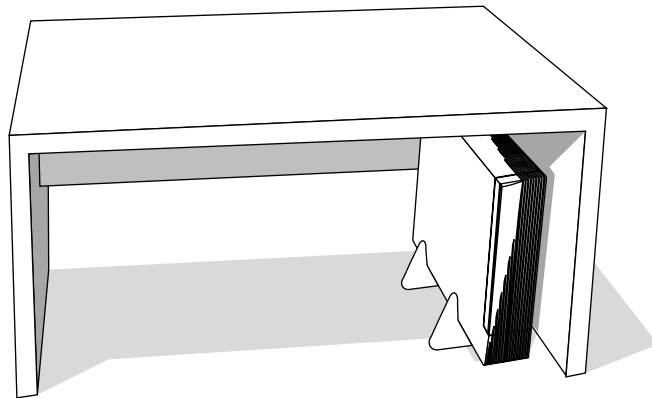

Figure 2-8 Placing Your Workstation Under Your Desk
5. Tip the workstation down onto the floor so that it rests on the stand. Place it under or beside your desk or workspace, as shown in Figure 2-8.